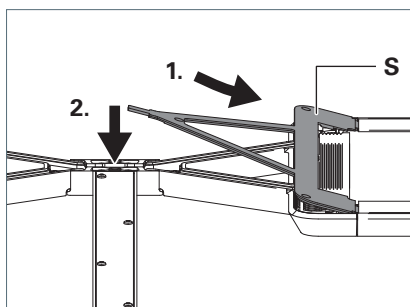

Fig. 25: Fitting the cover.
- Set the cover **S** with the three tabs on the underside of the cover into the recesses on the luminaire head and press the cover firmly, see Fig. 25.